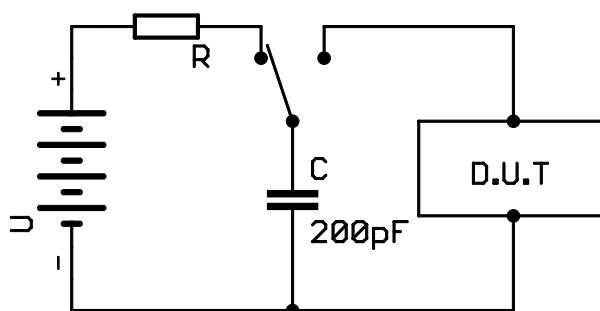

Figure 2: The Machine Model (MM)
Machine Model (MM) shown in figure 2 replicates the charge generated by for example “pick and place” IC handlers or soldering iron. The MM has no series resistance but a larger capacitor. The voltages in MM test are generally lower than in HBM. Due to the lack of the series resistor chips often fail in lower voltages than in HBM tests. (Reference: Carl Duffy, AMD, Test & Measurement Europe/April-May 1998)